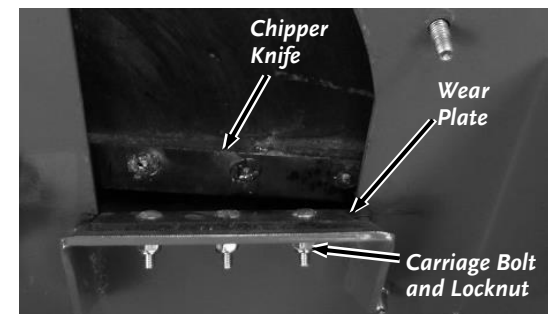

Figure 54
1. Remove the three Locknuts and Carriage Bolts that attach the Wear Plate to the Chipper Assembly and then remove the Wear Plate (**Figure 54**).